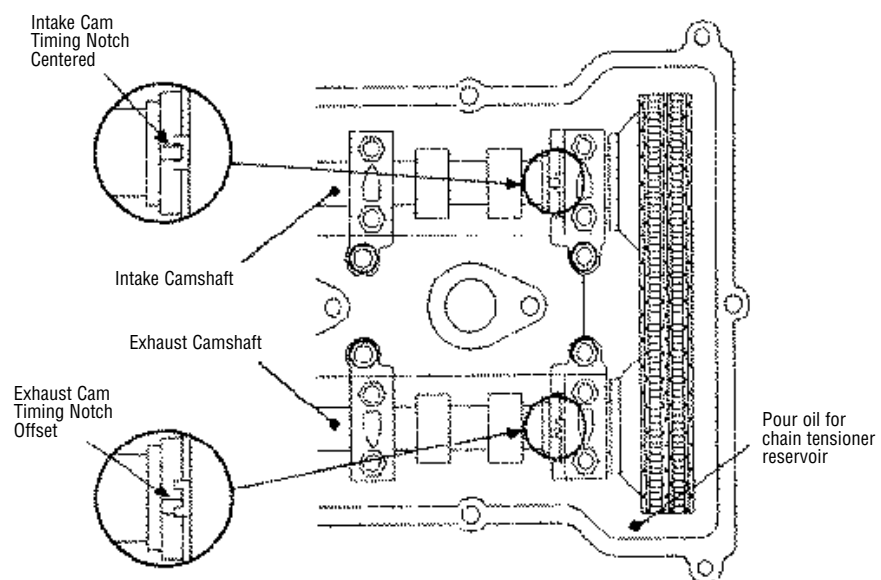

Figure 2 WITH BAVARIAN AUTOSPORT EXHAUST CAM GEAR
15. Using socket, rotate crankshaft two complete revolutions and realign timing mark on pulley and front cover. Timing mark on intake cam should line up as before installation, exhaust cam timing mark should be slightly counter clockwise of notch. *See figure 2.*
20. Fill tensioner oil reservoir by pouring a few ounces (about 1/4 to 1/2 quart - if too much, it will simply over flow into oil pan) of motor oil down right side of chain gear housing. See figure 2.